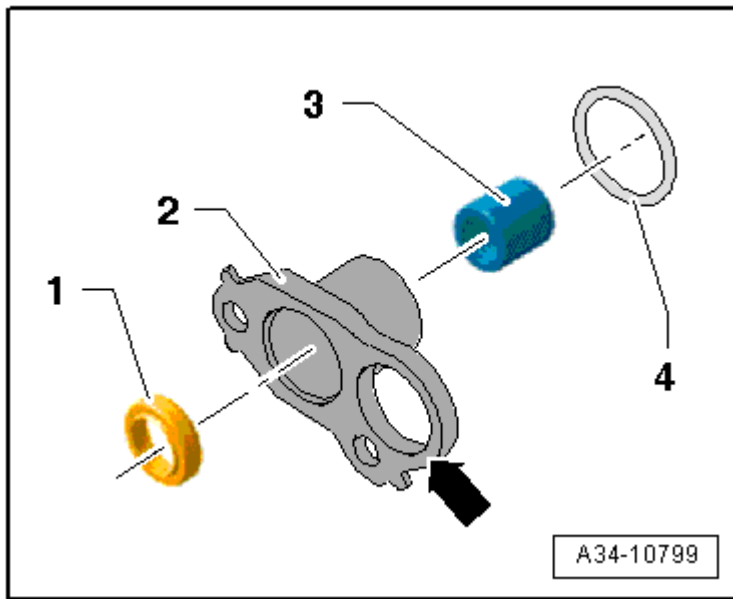

Fig. 64: Assembly Overview - Gearshift Shaft Cover With A Hole -Arrow- For Transmission Neutral Position Sensor -G701- Or Cap
- Assembly overview, refer to **Fig. 64**